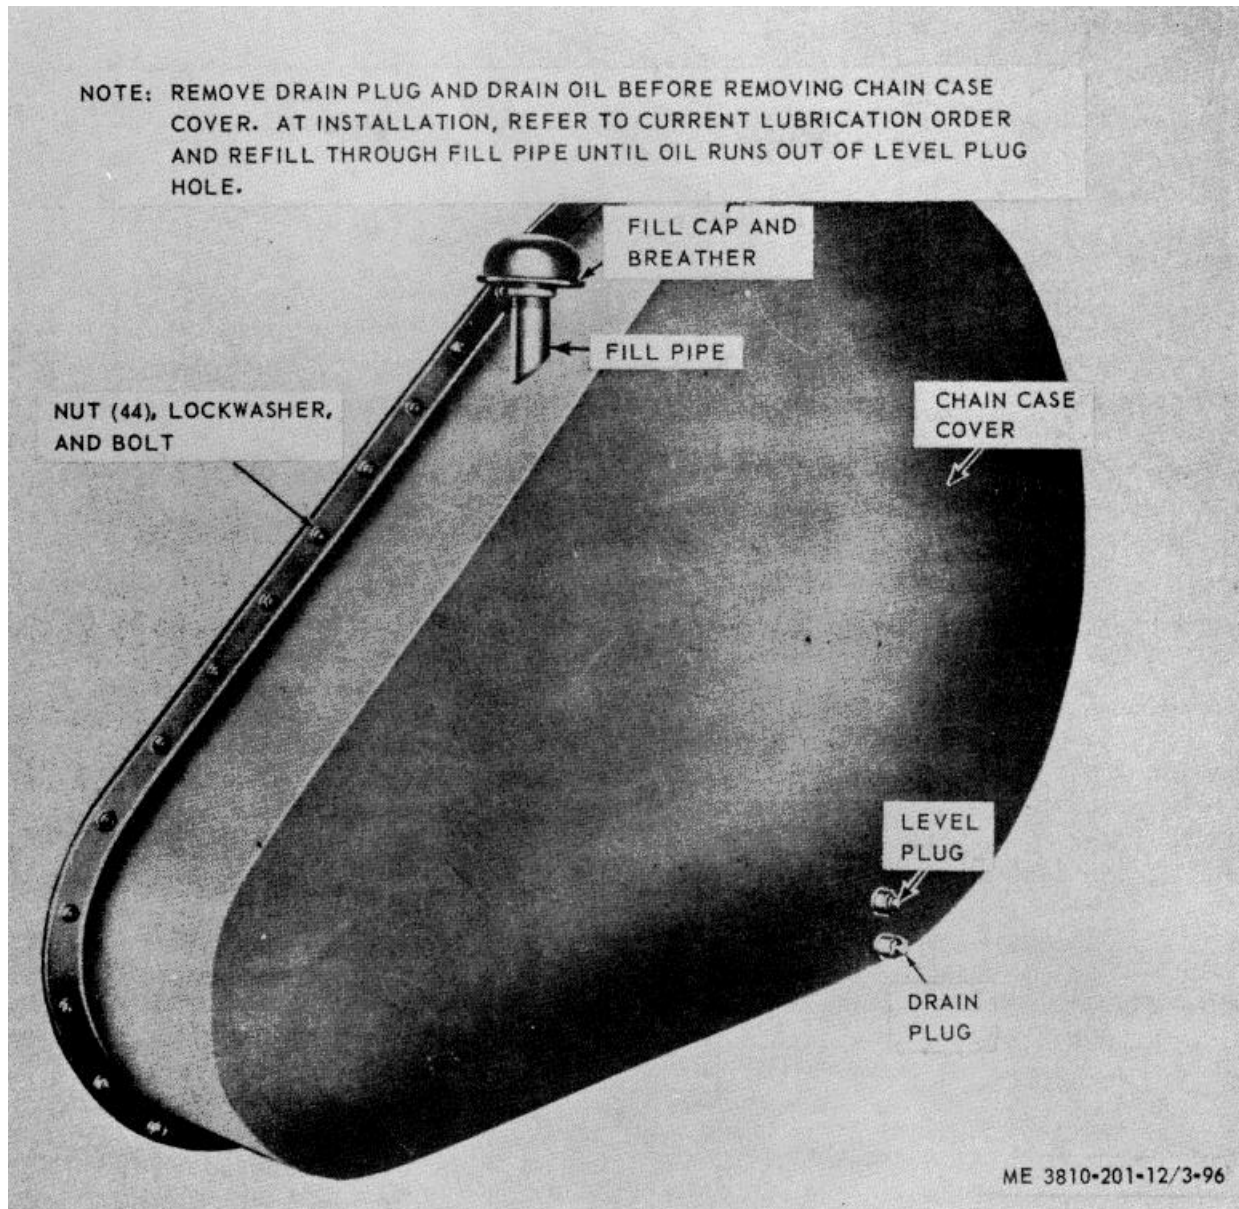

Figure 3-96. Transfer chain case cover, removal and installation.
- (1) Refer to figure 3-96 and remove transfer chain case cover.